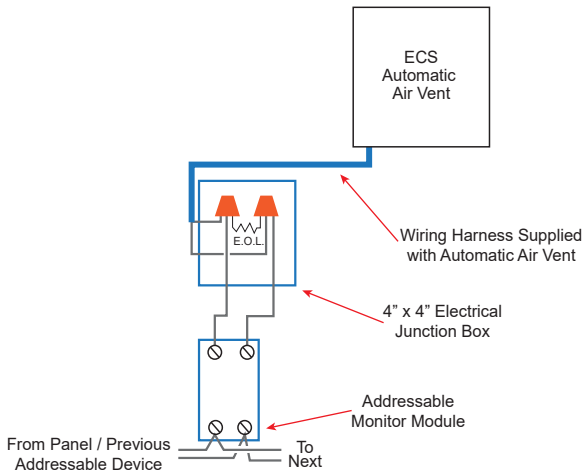

FIGURE 2 - ECS Ejector Automatic Air Vent Outline Drawing
1. The ECS Ejector Automatic Air Vent is equipped with an isolation ball and a quick connect for easy installation and servicing (see Figure 2).